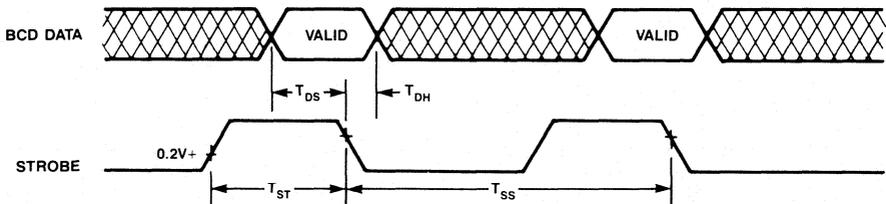

FIGURE 1 – BCD MODE STROBE INTERFACE TIMING
strobe used to clock the valid codes into the LND buffer. Dialing proceeds at the specified rates. The strobe duration must be active for at least 2  $\mu$ s to ensure proper acceptance of the information. If the strobe remains high for longer than 96 ms false dialing may occur. A minimum of 8 ms must separate each strobe. Figure 1 illustrates the required strobe/data timing. Valid encoded signaling information must be present until the strobe goes low. Information entered during an on-hook operation is stored but signaling is inhibited. Changing between BCD and keyboard mode can only occur when the HKS input is high, or upon power-up. Caution, a power supply transient may be interpreted as a power-up condition, and the logic level on pin 15 (11) at that time will be interpreted as a valid BCD/Keyboard selection.